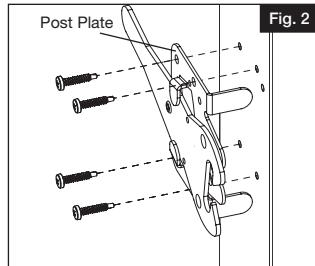

Fig. 2
- d. Secure latch to side of post with four 1" Square/Phillips Combo screws (Fig. 2).